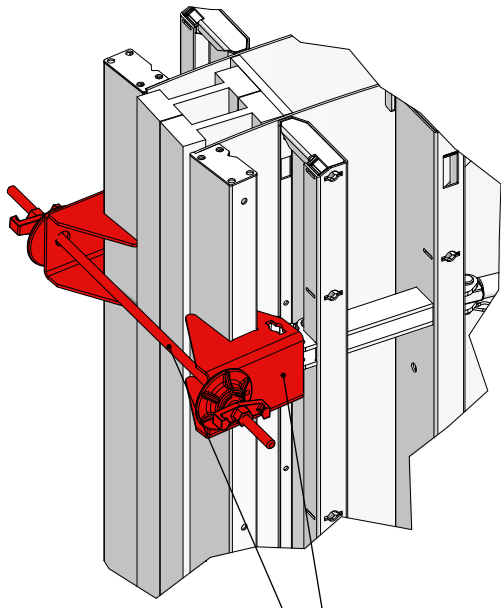

Fig. 17.1
1. The tie rod DW is attached to the panel by using 2 stop-end claws and 2 articulated flange nuts. The tie takes the load resulting from the panels and avoids that the panels move apart (Fig. 17.1).